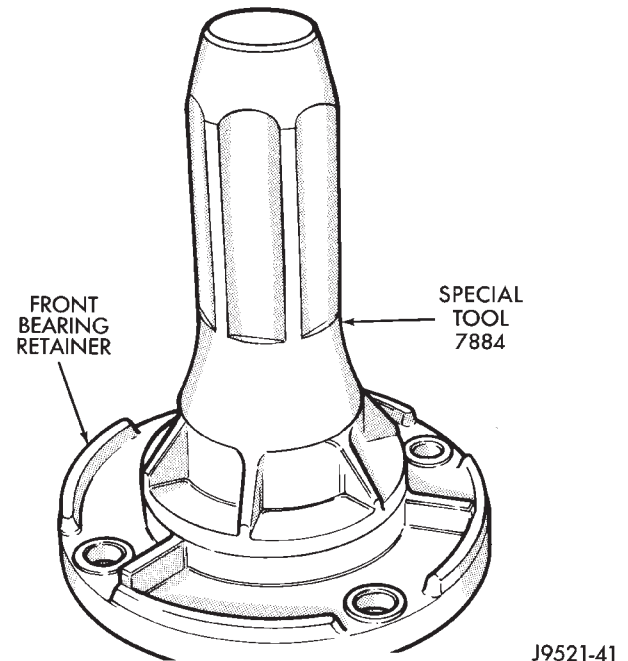

Fig. 53 Install Front Bearing Retainer Seal
(15) Remove front bearing retainer seal with suitable pry tool.
(16) Install new front bearing retainer seal with Installer 7884 (Fig. 53).